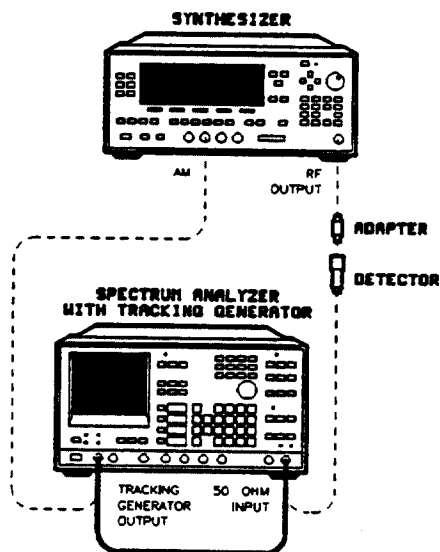

Figure 2-26. AM Bandwidth Test Setup
1. Connect the equipment as shown in Figure 2-26 with the tracking generator output connected to the 50 ohm input of the spectrum analyzer. Press **PRESET** and let the equipment warm up for at least one hour.